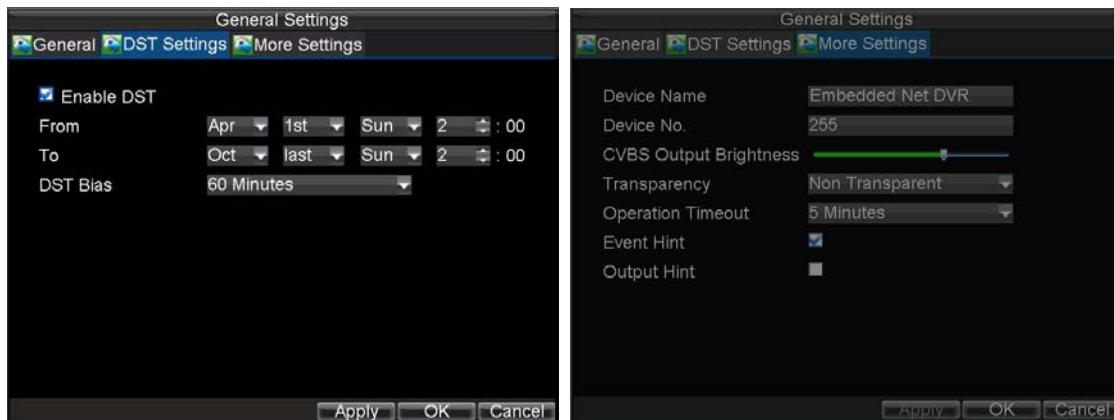

Figure 5. General Settings-DST & More Settings
9. Select the **DST Settings** tab to enable DST, and **More Settings** to change device name and number, shown in Figure5.